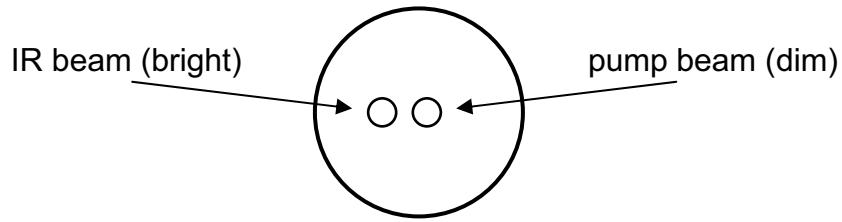

Figure 8-3. Graphical Representation of the Correct Beam Spot Positions on M5
1. Observe the beam pattern on M5 with an IR viewer. The pump and IR beam spots should be separately visible. The IR spot should be significantly brighter, but the two spots may easily be distinguished by blocking and unblocking the cavity beam between PR2 and M3. Figure 8-3 shows the target positions of the pump and IR beams on M5, with approximately one beam diameter (1 to 1.5 mm) separating the two spots. It is the separation between the beams which is important, not their absolute positions on the optic.
3. In the horizontal dimension, walk the IR beam so that it approximates the beam positions shown in Figure 8-3.
6. Maximum power should correspond to the beam positions shown in Figure 8-3. If it does not, recheck the pump beam alignment, and ensure that all optics are clean. Look on all optics for clipping. If clipping is present, walk the beam close to center on that optic (see the "Output Coupler Leg" and "Prism Leg" sections below) and return to step 2.
The first time through the optimal power may not correspond to the beam positions shown in Figure 8-3, usually because the beam is severely misaligned elsewhere in the cavity. Try to emulate Figure 8-3 and then proceed.
3. The IR and pump beam positions on M5 closely resemble Figure 8-3 (precisely the same height, approximately one beam diameter between the beams).